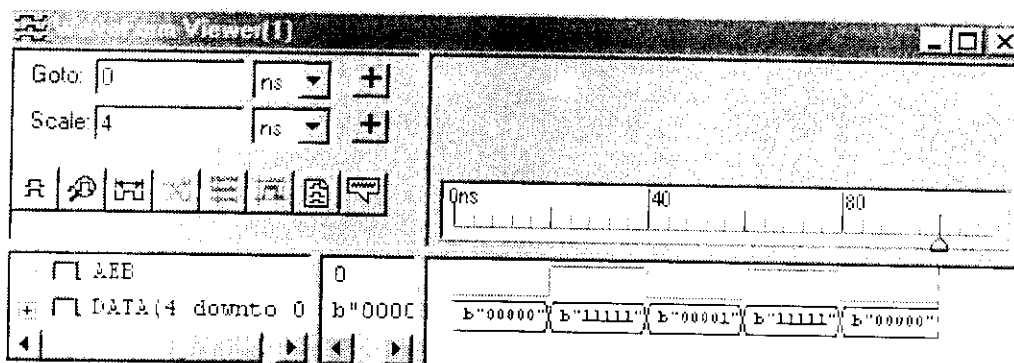

Figure 5. Results from the Decode Simulation
10. Verify that your simulation results match those shown in Figure 5.